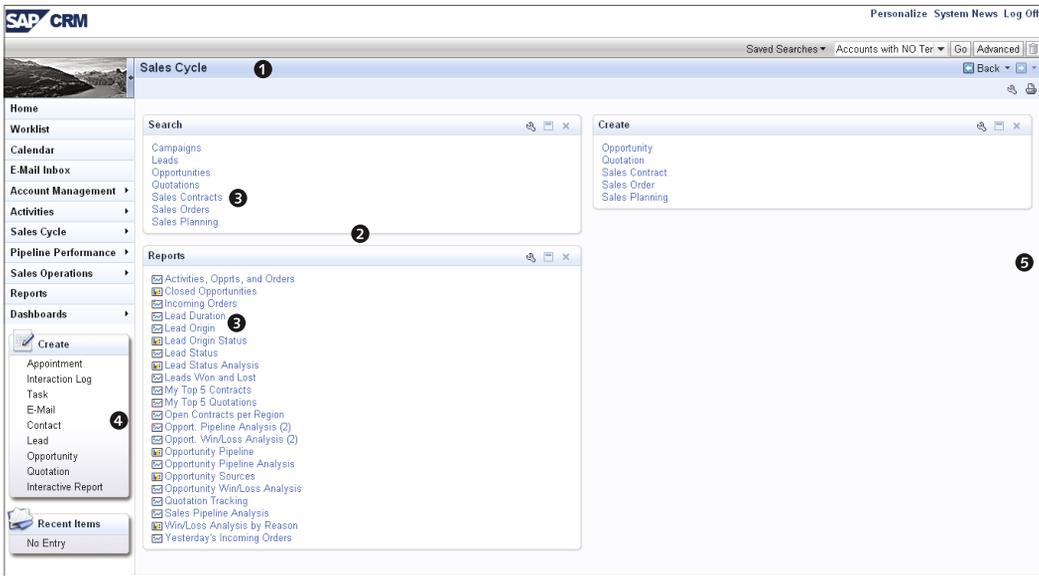

Figure 8.29 WebClient UI Screen
This field controls the work centers, and the work centers control the logical link. Figure 8.29 shows a diagram of the business role. The logical link calls the WebClient UI component containing views via the target ID.
Figure 8.29 shows the WebClient UI screen callouts for ❶ Work Centers, ❷ Work Center Link Group, ❸ Logical Links, ❹ Direct Link Group, and ❺ Work Center Page.